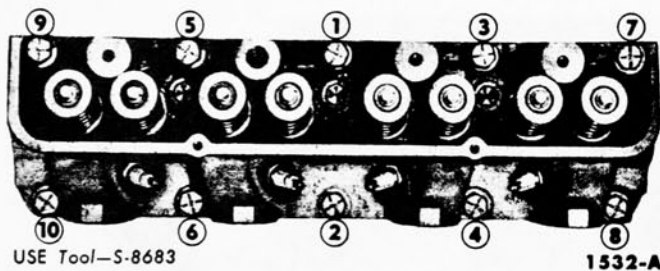

FIG. 52—Cylinder Head Bolt Tightening Sequence
3. The cylinder head bolt tightening procedure is performed in three progressive steps. Tighten the bolts to 60-70 foot-pounds torque in the proper sequence (Fig. 52), then tighten them to 70-80 foot-pounds torque in the same sequence. Finally, tighten the bolts to 80-90 foot-pounds torque in the same sequence. **After the cylinder head bolts have been tightened to specifications, the bolts should not be disturbed.**